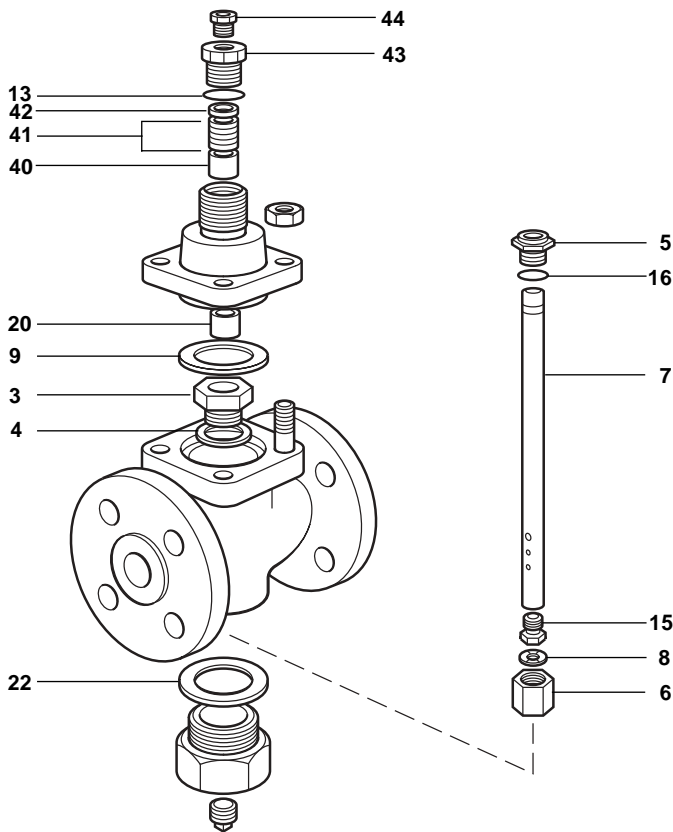

Fig. 10
- Remove and discard the existing stuffing box, PTFE chevron seals, guide bush, and spring (see inset in Fig. 10).
- Fit the bottom support ring (40, see Fig. 10) over the valve stem and locate in the valve bonnet with its small diameter downwards.
- Fit the stuffing box gasket (13) to the stuffing box (43), and pass the stuffing box assembly over the valve stem (7).
- Ensure the gland nut (44) is finger tight against the top support ring (42), then move the valve stem up and down over its full travel five or six times to bed in the packing rings.
- Fit the top support ring (42), chamfer first, into the stuffing box (43). (See Fig. 10).
- Fit the five packing rings (41) into the stuffing box from below, so the thread in the top of the stuffing box cannot damage the rings. Ensure that the splits in the packing rings are staggered.
**Tip:-** Use the bottom support ring (40) as a temporary tool to push the packing rings into place.
- Fit the bottom ring support over the valve stem (7) and locate in the valve bonnet with its small diameter downwards.
- Fit the gland nut (44), and tighten finger-tight only at this stage.
- Fit the stuffing box gasket (13) to the stuffing box, and pass the stuffing box assembly over the valve stem.